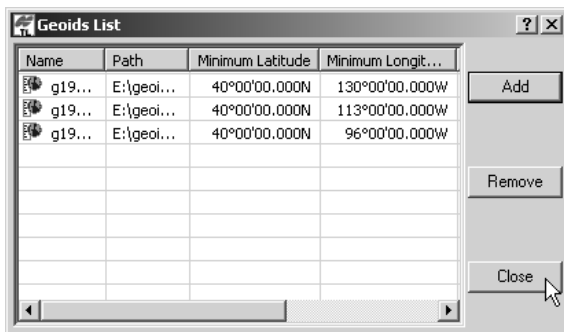

Figure 3-16. Geoids List
4. Click **Close** (Figure 3-16).